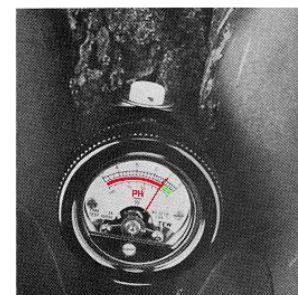

Fig.3
3. Fill the soil holder with the soil under test and pack the soil so as to be sure that the complete electrode surface will be in contact with it. Insert the instrument into the soil until the silver-colored electrodes are completely covered with soil. Then turn the instrument two or three times about its longitudinal axis to ensure good contact between soil and electrodes (fig.3). Black earth, clay, loam etc. should have a moisture content (shown on the meter) between 50 and 70%. If the soil is too wet, the water should be pressed out until the moisture content is at a minimum 50%. Humus rich soil may have higher moisture content, even exceeding 100% as is often the case. If the soil is too dry, the pH cannot be measured; in that case it should first be moistened with distilled water; readings can then be taken after about 2 hours.